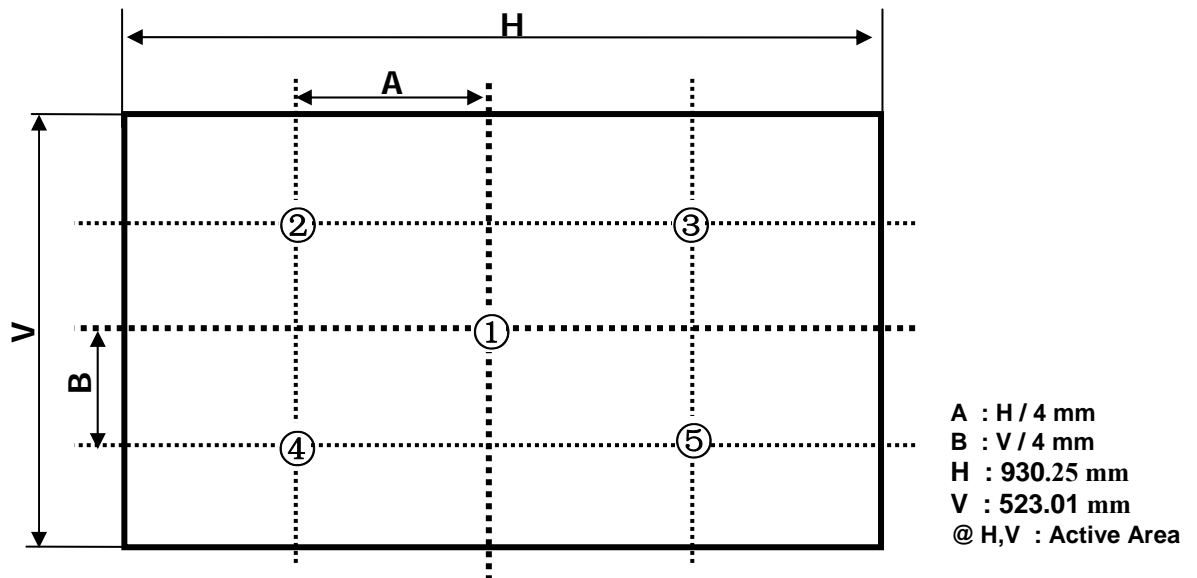

FIG.2 Measure Point for Luminance
n = the Position number(1, 2, 3, 4, 5), For more information, see FIG. 2.
2. Surface luminance are determined after the unit has been 'ON' and 30min after lighting the backlight in a dark environment at $25 \pm 2^\circ$ C. Surface luminance is the luminance value at center 1-point across the LCD surface 50cm from the surface with all pixels displaying white. For more information see the FIG. 2.
Where L_{on1} to L_{on5} are the luminance with all pixels displaying white at 5 locations . For more information, see the FIG. 2.